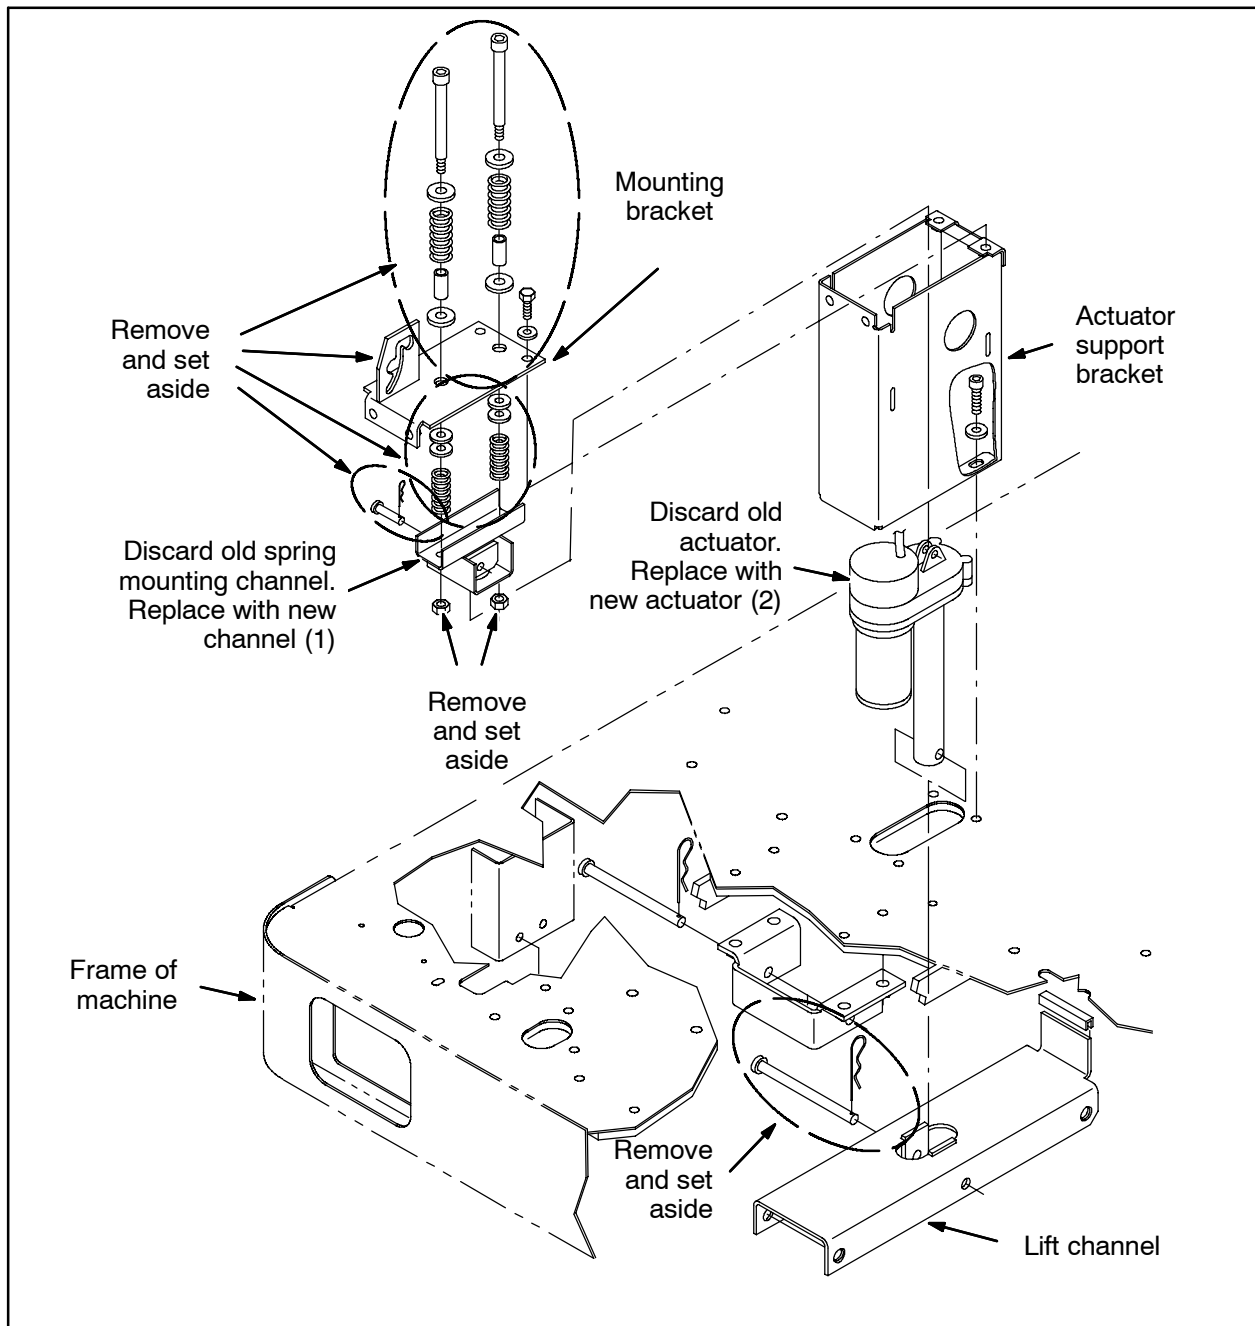

FIG. 1
1. Disconnect the actuator shaft from the lift channel. Set the cotter pin and clevis pin aside. Refer to Fig. 1.
2. Remove the actuator assembly from the machine. Set all mounting hardware aside. Refer to Fig. 1.
3. Remove the spring mounting channel and actuator from the mounting bracket. Set all mounting hardware and components aside. Discard the actuator and spring mounting channel. Refer to Fig. 1.
4. Install the new spring mounting channel (1) and actuator (2) onto the mounting bracket. Refer to Fig. 1.
5. Install the actuator assembly onto the actuator support bracket. Refer to Fig. 1.
6. Install the shaft of the new actuator (2) onto the lift channel. Refer to Fig. 1.